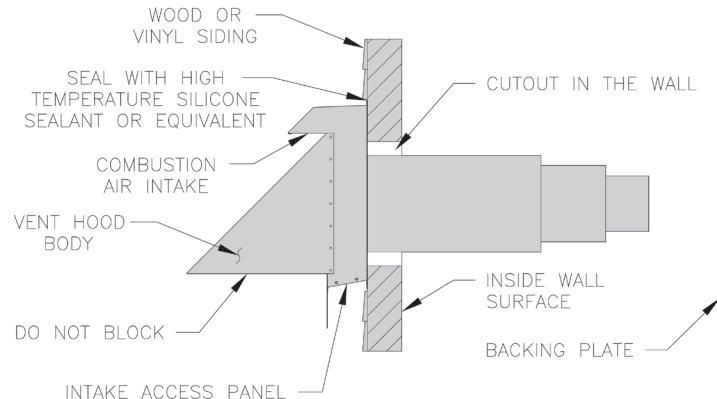

Figure 15: Vent Hood Body Installation
NOTE: Secure chimney connector to cast iron smokebox collar with three (3) #10 x 1/2" self drilling hex head TEK screws provided in miscellaneous parts carton. Locate screws around perimeter of connector as shown in Figure 15 and approximately 1/2" in from edge. Use drill with 5/16" hex bit to drive screws through connector and smokebox collar.
2. Direct Vent Conversion Kit Carton includes (see Figures 15, 16, 17):
6. Wood or vinyl siding should be cut, so that vent hood base plate mounts directly on the wallboard to provide stable support. If siding thickness exceeds $\frac{1}{2}$ ", use a spacer bar or board behind the vent hood mounting (base) plate. See Figure 15.